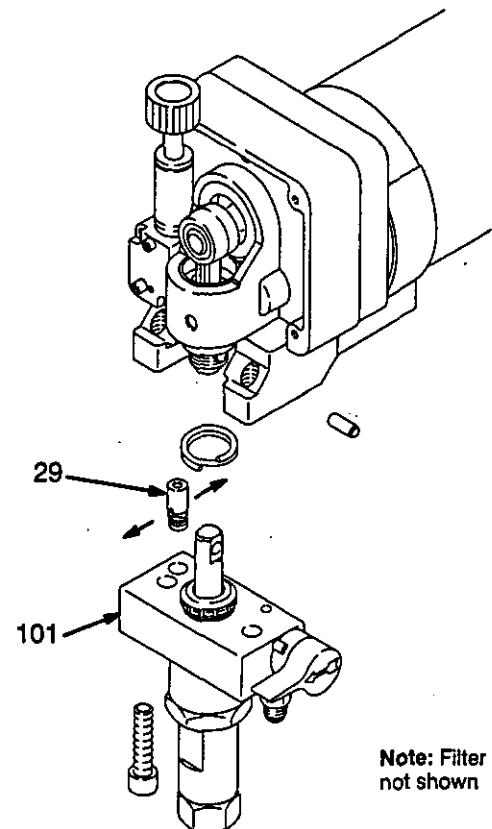

Fig 32
NOTE 1: See Fig 32 for this procedure.
2. Use a pull-twist motion to remove the transducer (29) from the pump manifold (101).
6. Align the holes in the transducer as shown by the arrows in Fig 32.